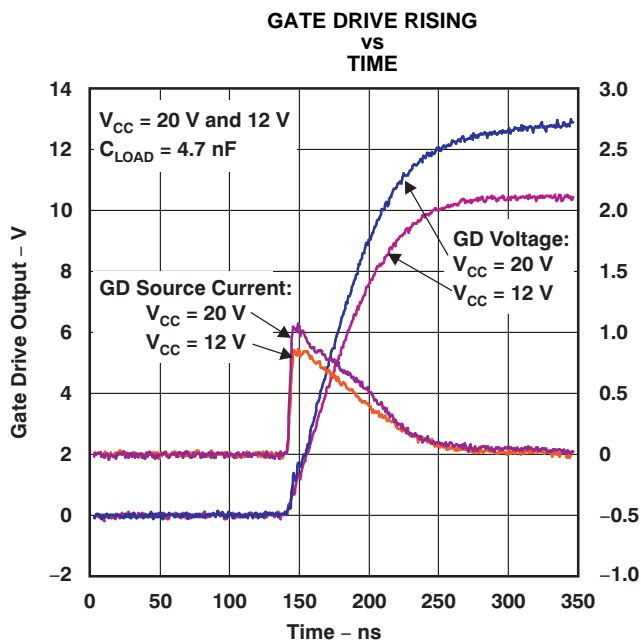
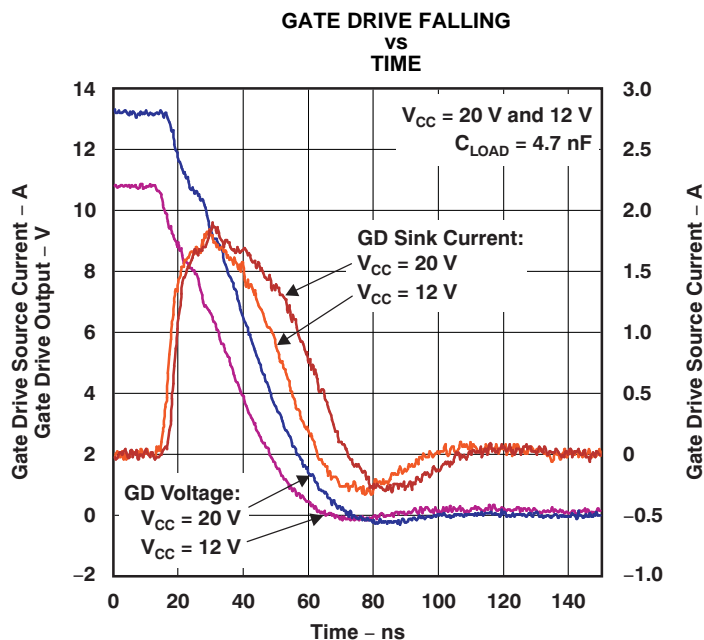
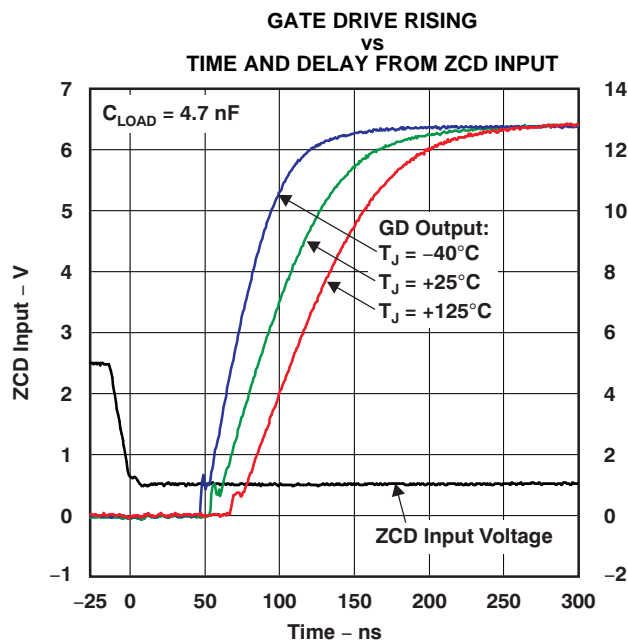

Figure 13.
Figure 14.
Figure 15.
(2) Refer to Figure 13, Figure 14, Figure 15, and Figure 16 in the Typical Characteristics for typical gate drive waveforms.